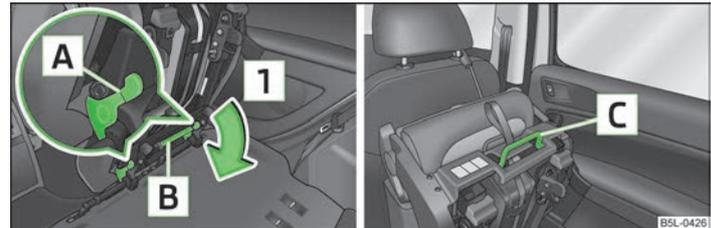

Fig. 52 Unlocking the folded forward seat/carrying handles on the seat cushion
- > Unlock the folded forward seat by pressing the seat locks **A** in direction of arrow **1** » Fig. 52.
- Fold the outer seat forward » page 61 and unlock » Fig. 52 on page 61.